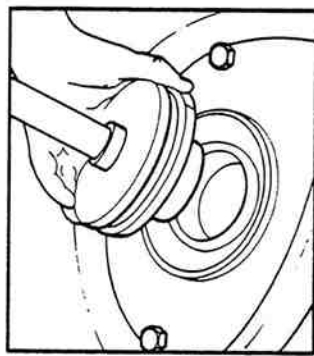

Figure 15-16. Installing Tool With Seal in Hub.
10. Insert centering plug in bore of inner bearing cone (figure 15-16).
10. Position the tool squarely on the edge of the seal bore (figure 15-16).